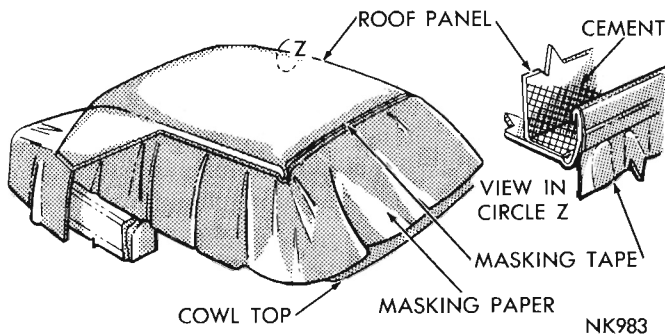
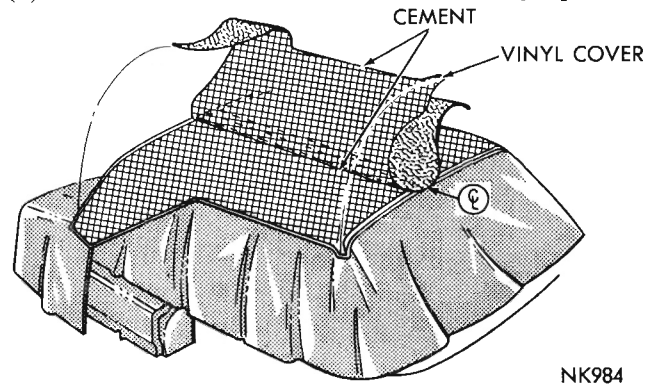

Fig. 1 Masking The Body
FIG. 2 Positioning Cover On Roof
(1) Mask body (Fig. 1) from edge of drain trough across upper "A" pillar, windshield and rear window reveal, top of deck upper and bottom or roof panel at belt line.
(2) Locate and mark center line of roof panel and vinyl cover at front and rear ends.
(3) Apply a thin film of cement to center four inches of roof panel and vinyl cover.
(4) When cement becomes tacky, position cover on roof aligning centerline marks.
(5) Apply cement to one half of roof panel and extension and to the cover half on same side (Fig. 2).
(6) When the cement becomes tacky position